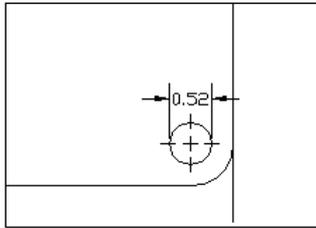
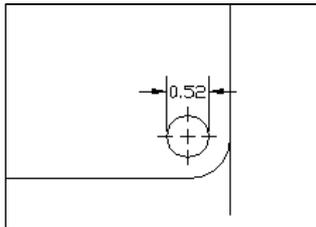

Figure 15-12: A narrow dimension using the Either the Text or the Arrows, Whichever Fits Best option.
Figure 15-13: A narrow dimension using the Arrows option.
- ♦ **Either the Text or the Arrows, Whichever Fits Best:** Puts whatever fits inside the extension lines. The arrowheads might fit inside and the text not, or the other way around. Or if there isn't enough room for either, they both go outside the extension lines. Figure 15-12 shows a dimension using this option.
- ♦ **Arrows:** If there is not enough room for both the text and the arrows between the extension lines, the arrows go outside and the text goes between them. Figure 15-13 shows a dimension using this option. The results of this option happen to look the same as Figure 15-12, but a different setting produced them.